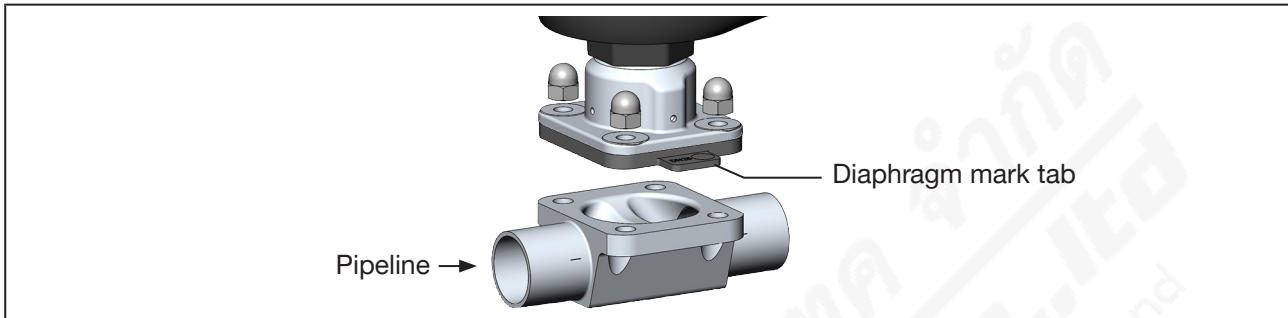

Fig. 102: Aligning the diaphragm (example 2-way body)
The mark tab of the diaphragm must protrude from the valve body at a right angle to the longitudinal axis of the pipeline (see “Fig. 102”).
- Align diaphragm. The mark tab of the diaphragm must protrude from the valve body at a right angle to the longitudinal axis of the pipeline (see “Fig. 102”).
- ⚠ Before installing the actuator, check whether the diaphragm is free of damage and correctly aligned. The mark tab of the diaphragm must protrude from the valve body at a right angle to the longitudinal axis of the pipeline (see “Fig. 102”).